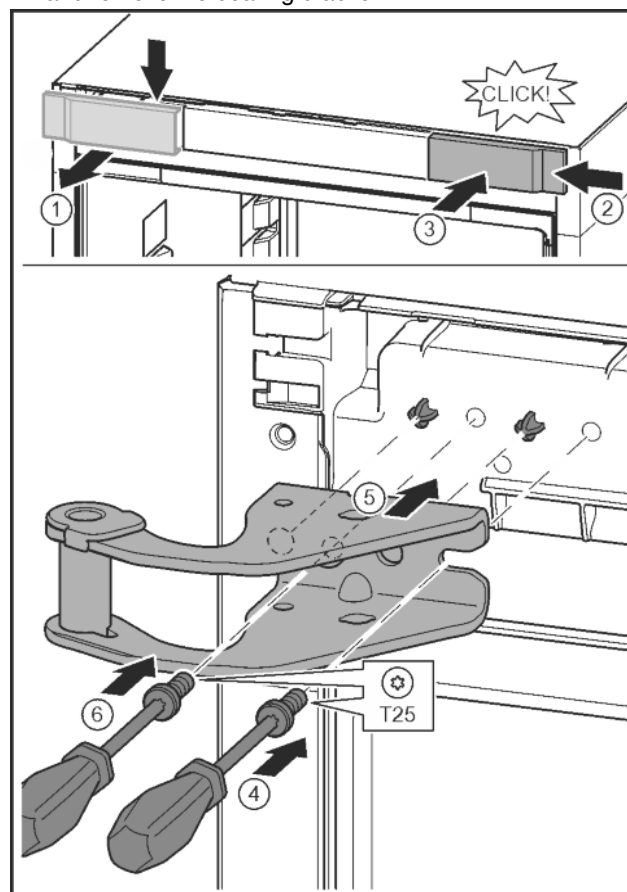

Fig. 15
- Release the cover and remove from the side. Fig. 15 (1)
- Rotate the cover 180° and clip onto the other side from the right. Fig. 15 (2)
- Click the cover into place. Fig. 15 (3)
- Position the screw with a T25 screwdriver. Fig. 15 (4)
- Position the upper bearing bracket. Fig. 15 (5)
- Tighten the screw. Fig. 15 (6)
- Insert the screw with a T25 screwdriver and tighten. Fig. 15 (6)